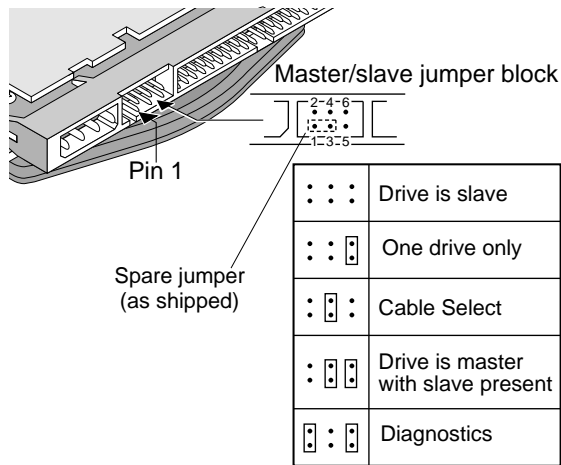

Figure 4. Master/slave jumper block settings
The master/slave jumper block allows you to configure the drive for operation. Figure 4 on page 18 shows the master/slave jumper block configuration options. A brief description of each option follows the drawing.
- Install jumpers on pins 3 and 4 as shown in Figure 4 above.